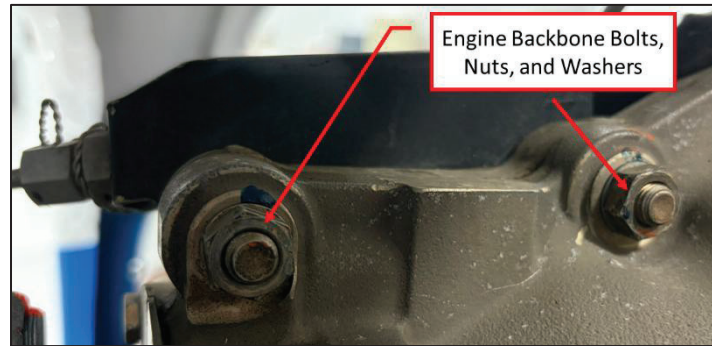

Figure 8: Engine Backbone Hardware
- 4) Remove the existing engine backbone bracket by removing the engine backbone bolts, nuts, and washers. Reference Figure 8.